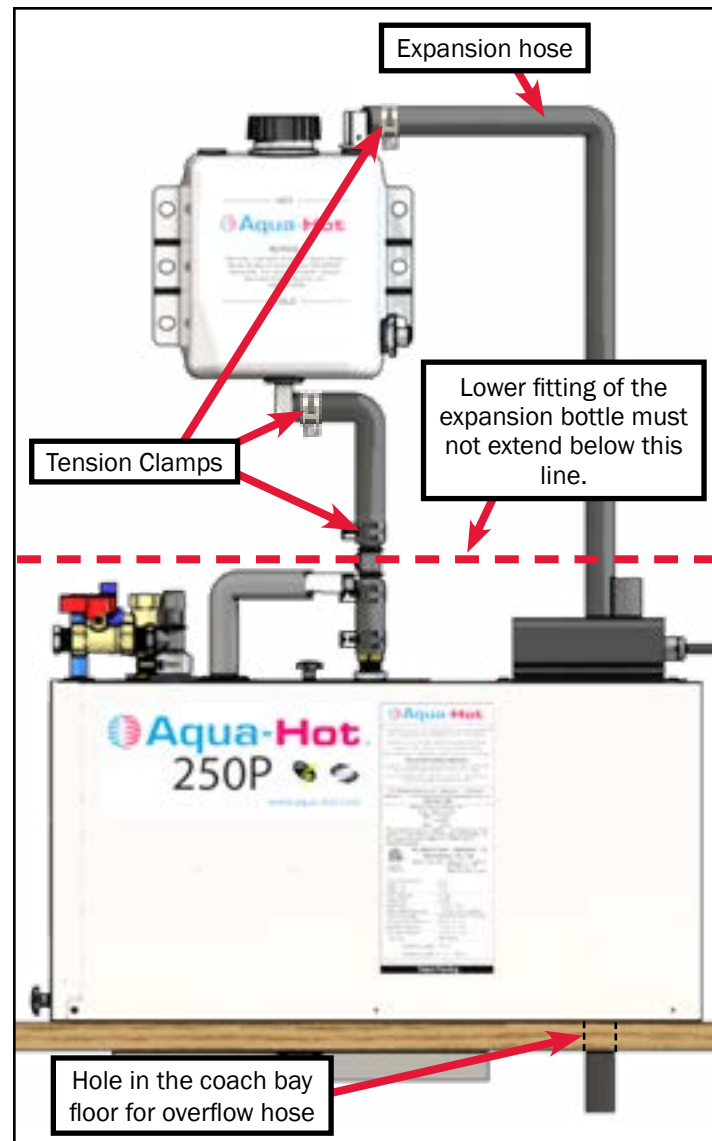

Figure 11
2. Mount the expansion tank as illustrated in Figure 11.